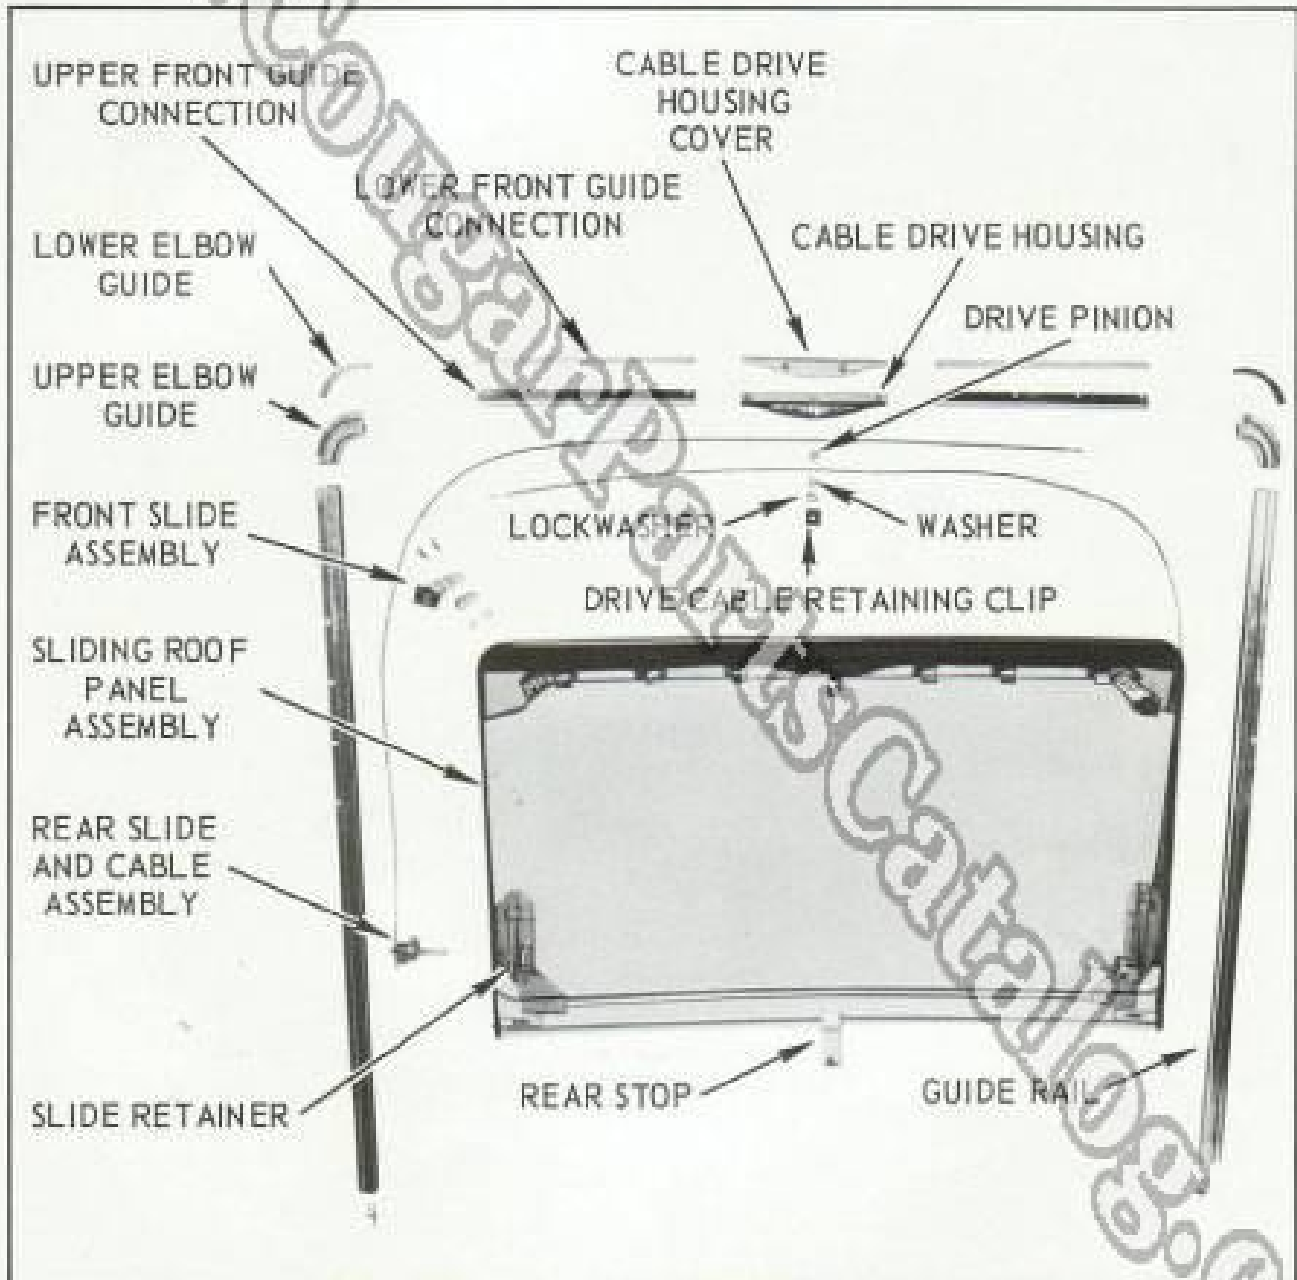

Fig. 14 - Sun Roof Panel-Disassembled View
2. Remove the drive cable housing cover. (Refer to figure 14).
- Remove front center cable drive housing cover. Refer to figure 14.